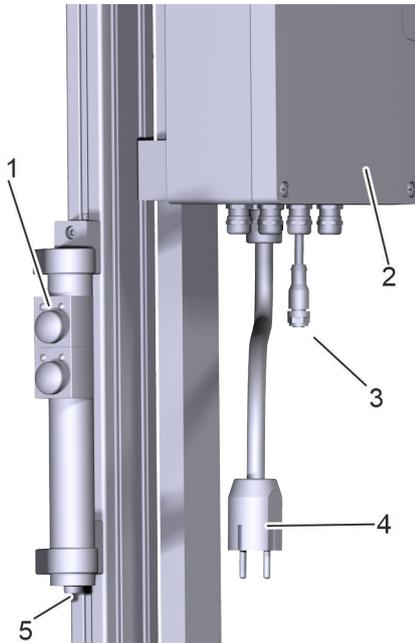

Fig. 16: Electrical connection
6. ▶ Plug the power lead's plug into the power socket and connect the power cord (Fig. 16/4) of the lifting device to the power lead.
The LED above the buttons on the control unit (Fig. 16/1) lights up green.
Make sure that the control unit (Fig. 16/1) is connected to the junction box (Fig. 16/2) via the connection cable (Fig. 16/3). The connection for this is located on the base of the handle (Fig. 16/5).